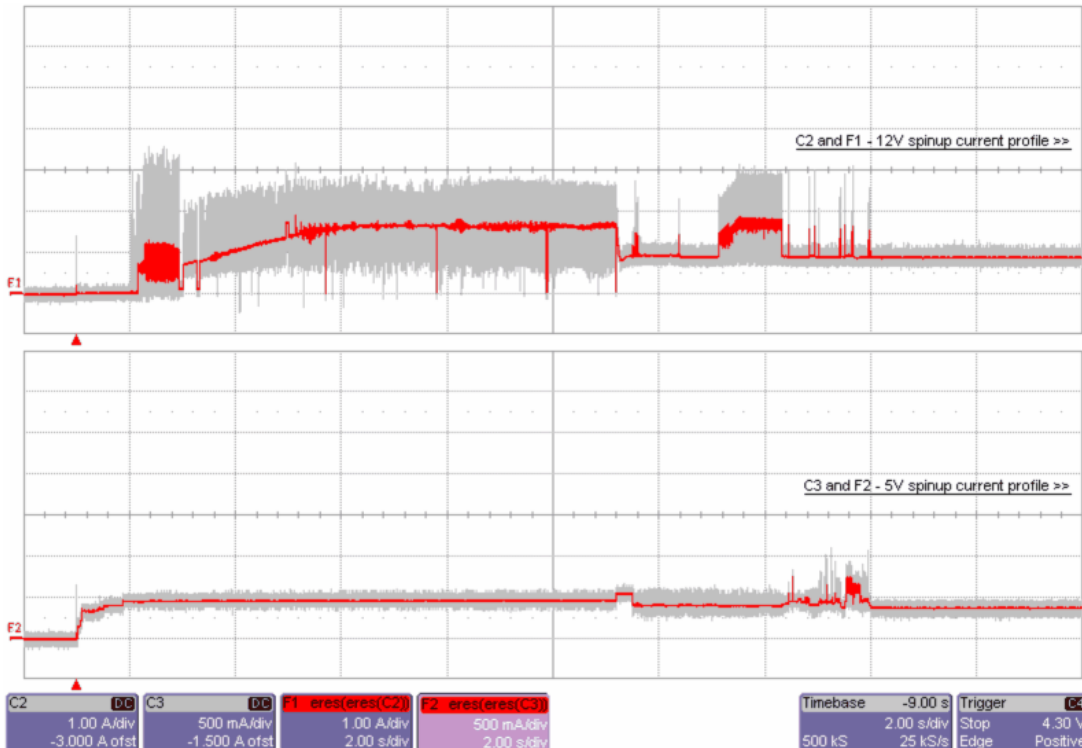

Figure 1. Typical 600GB current profiles
- [3] See +12V current profile in Figure 1.